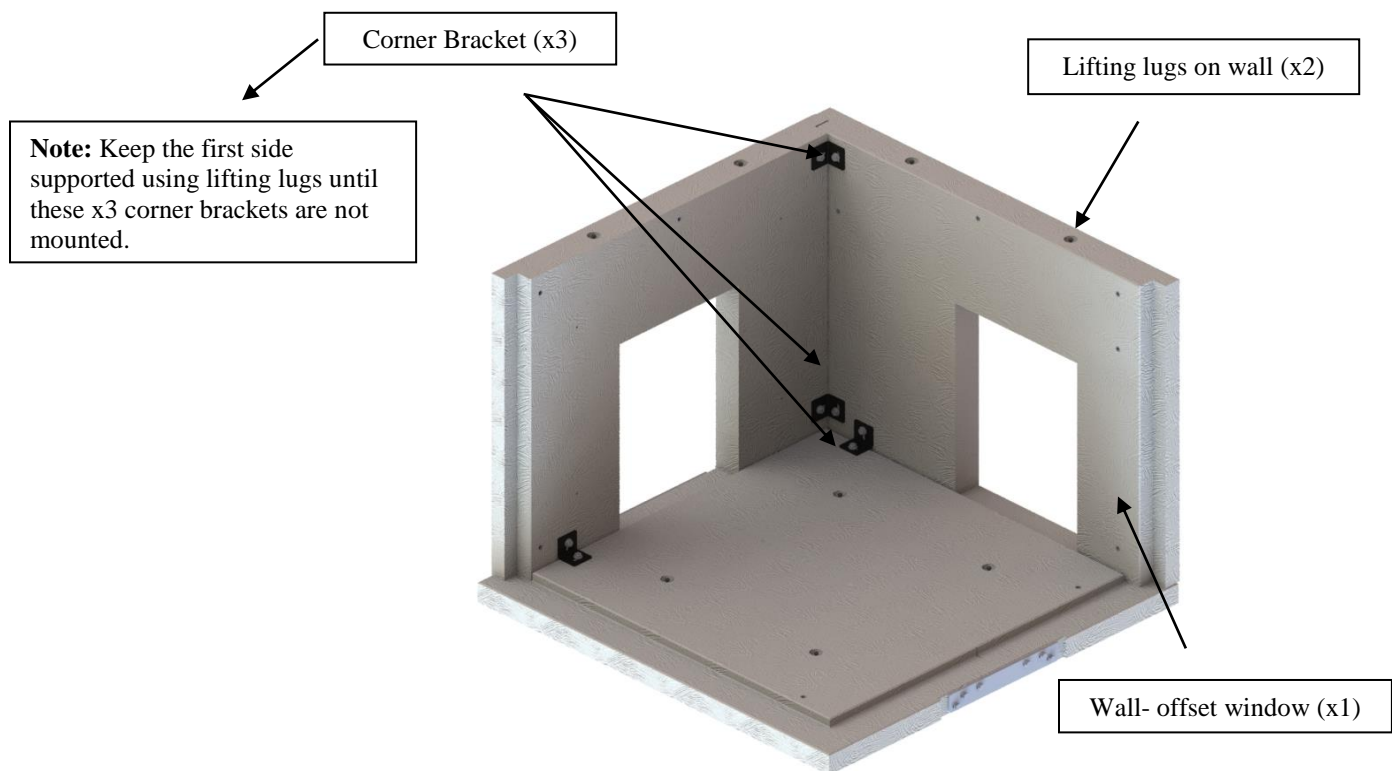

Figure 4
11. Connect to 2x lifting lugs and gently lift to the upright position and lower into the hole ensuring that it lowers onto the floor rebate as shown in Figure 4. Position Corner Bracket using M16 Hex Head Bolts and M16 Washers by aligning floor and side ferrules. Don't overtighten the bolts at this stage. Keep them loose so that the brackets can be adjusted accordingly.